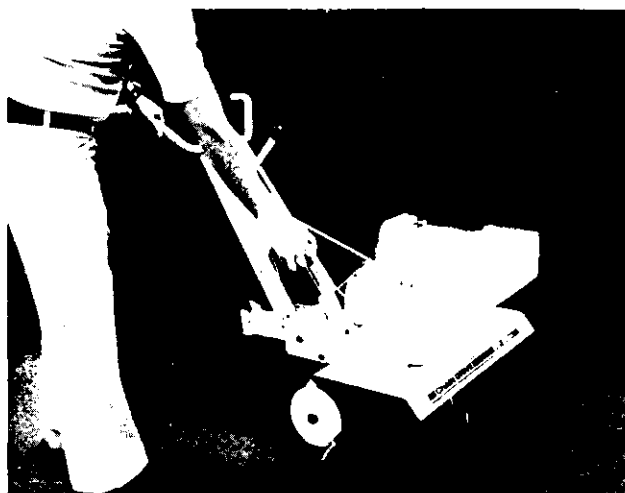

FIGURE 25.
5. Stand at side of the tiller, grasp the starter handle and pull out rapidly. Return it slowly to the engine. Repeat as necessary. See figure 25.